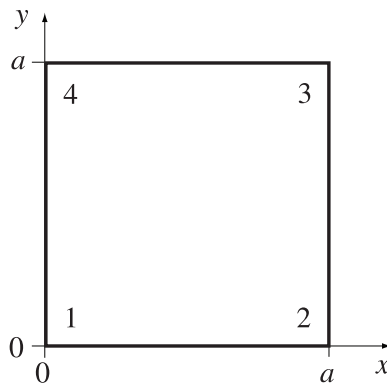

Fig. 1
- (c) Propose suitable shape functions for the square thin plate finite element shown in Fig. 1. [25%]